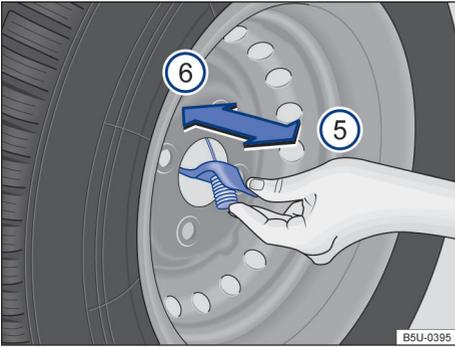

Fig. 166 On the spare wheel: remove the spare wheel cable.
- Place the spare wheel in vertical position → Fig. 166.
- Remove the hook from the central wheel hole, in the direction of the arrow ⑥.
- Insert the hook through the central wheel hole, in the direction of the arrow → Fig. 166 ⑤.